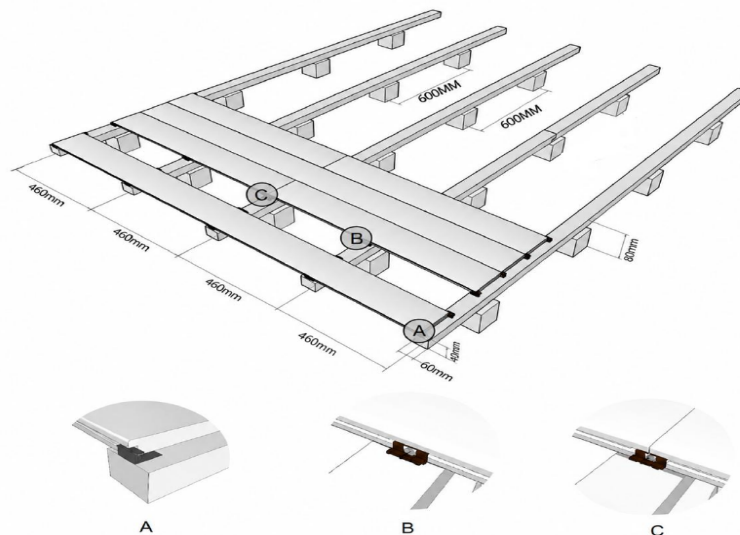

Figure 1
2. Use treated timber joists with a recommended standard thickness of 40 mm or galvanized steel joists as the supporting framework. See Figure 1.